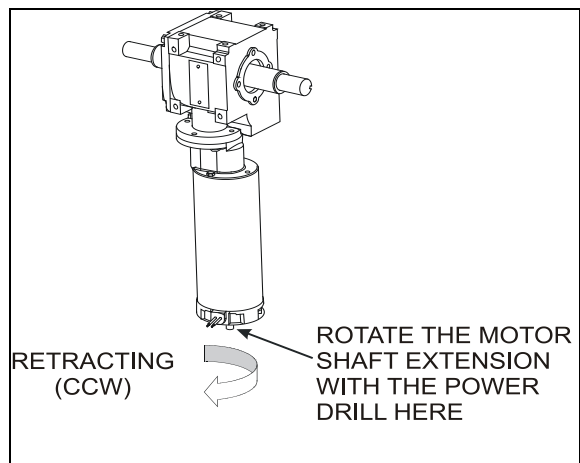

FIGURE 92 : SLIDE-OUT MOTOR ROTATION
- Rotate the slide-out motor shaft extension with the power drill until the slide-out comes to its closed position (FIGURE 92).